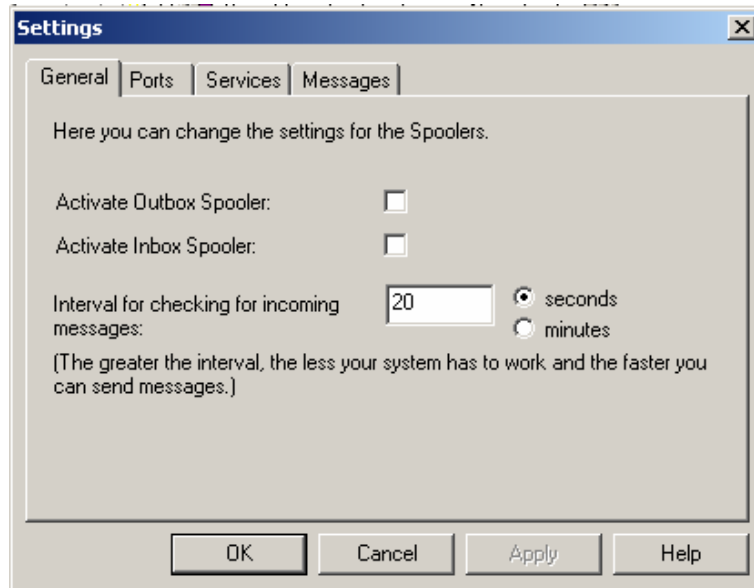

Figure 4.20. DERDACK Message Master Configuration Settings Dialog Box
Step 6: Click the **Config...** button to open the **Settings** dialog box, shown in **Figure 4.20**. Fill out the information in the **General**, **Ports**, **Services**, and **Messages** tabs with the appropriate information. At any time, you can get help by clicking the **Help** button to launch the Message Master help documentation.
Note: Figure 4.20 shows the configuration settings for GSM/PCS configuration. The Modem/ISDN configuration settings are slightly different. On the **Defined Services** tab of the Modem/ISDN configuration settings dialog box, if you create a new service, the country code for the service must be included in parentheses at the end of the service name. When specifying a telephone number for the service, there is a strict protocol for how you enter the number, which must conform to the following format. Parentheses, where shown, are necessary: